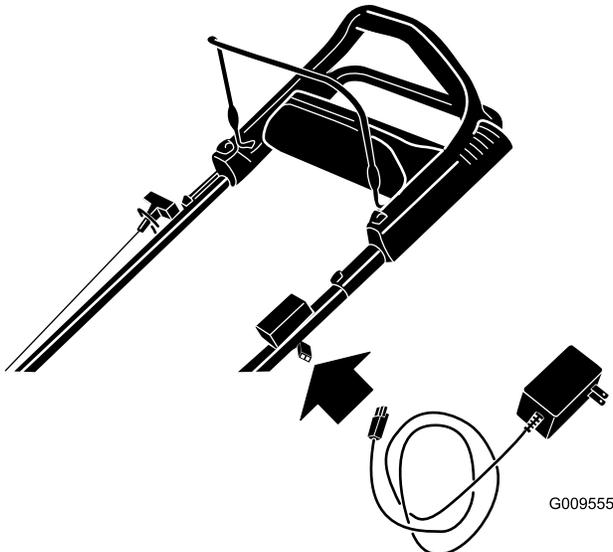

Figure 32
1. Connect the charger to the machine wiring harness located below the electric-start button (Figure 32).